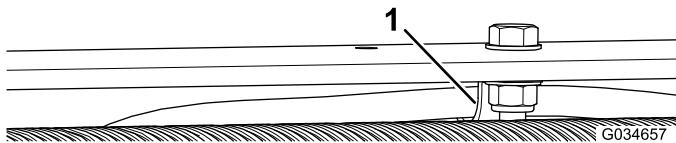

Figure 3
6. Remove the cable clamp as follows (Figure 3):